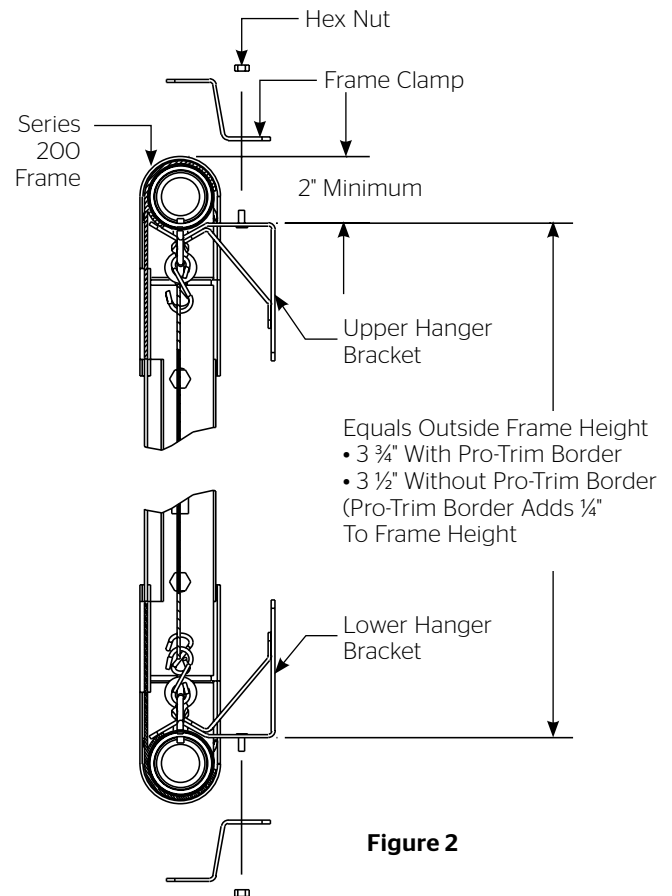

Figure 2
- You will need at least 2" above the hanger bracket to mount the Series 200 frame (see Figure 2).
2. Line up the lower hanger bracket with the mark and secure it to the wall. Refer to Figure 2.
3. Remove the frame clamp from the hanger brackets and position the Series 200 frame on the hanger brackets as shown in Figure 2.